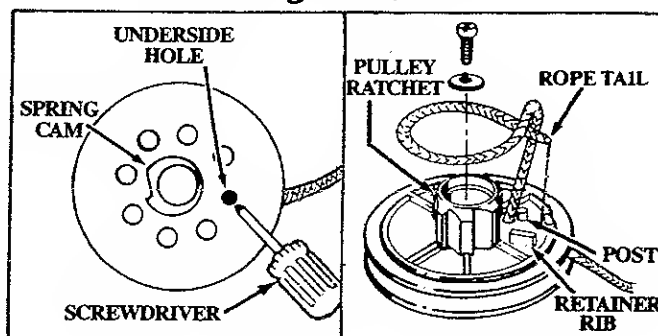

Figure 25
15. Guide rope inside pulley, then up through the pulley ratchet side of pulley hole to the outside by pushing the rope through from the hole on the spring cam side with a small Phillips screwdriver. Figure 25.